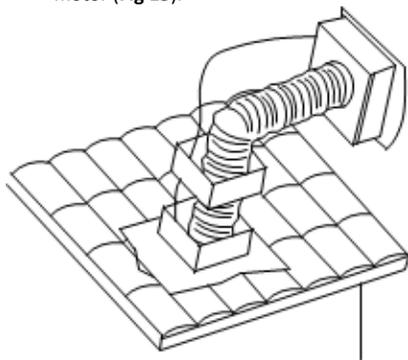

Fig 15
4. Put the ducting and the electrical cable through the metal pipe and attach to the back of the motor (Fig 15).